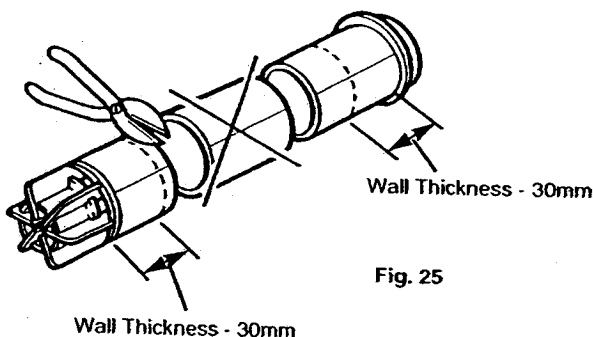

Fig. 25
If the wall thickness is less than 280mm (11 in), it will be necessary to cut the components of the air duct to the appropriate size. Dispose of the centre section, as this is not required (Fig. 25).
5. Measure the wall thickness and subtract 30mm (1 $\frac{1}{8}$  in) from this dimension. Cut the remaining sections to this length, measuring from the positions indicated in the diagram (Fig. 25).